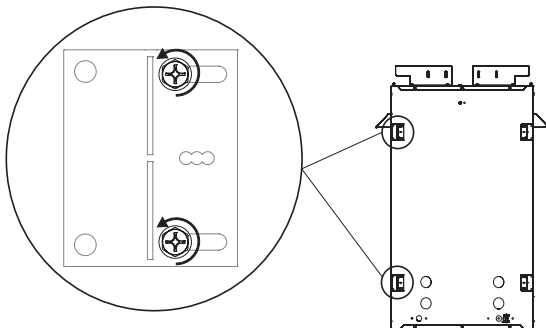

Figure 13
4. Loosen but do not remove the eight screws securing the nailing flanges to the firebox. **See Figure 13.**